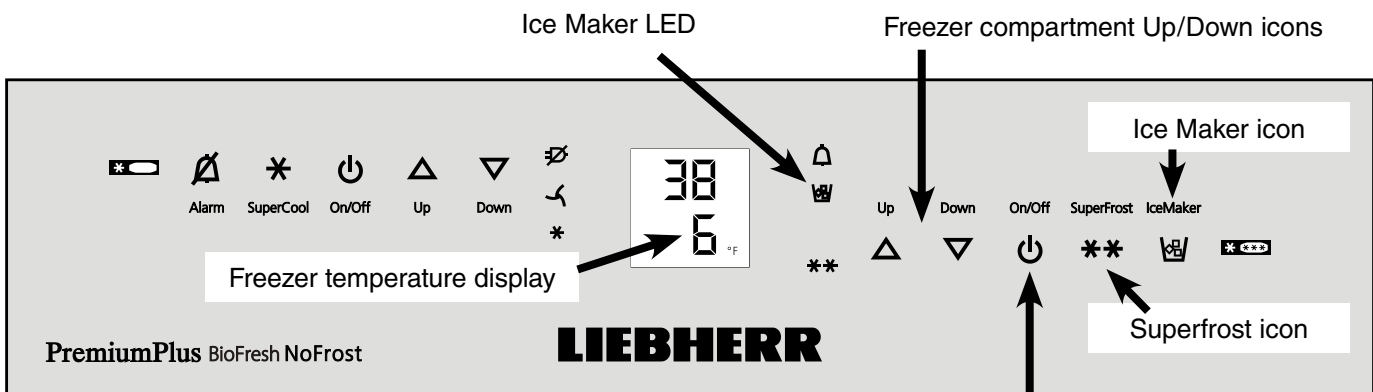

Figure 26
- Turn the Ice Maker on by touching the Ice Maker icon (**Figure 26**).
- Touch the **Ice Maker icon** so the **Ice Maker LED** comes on (**Figure 26**).
- Touch the **IceMaker** icon so the **IceMaker LED** comes on (**Figure 26**).